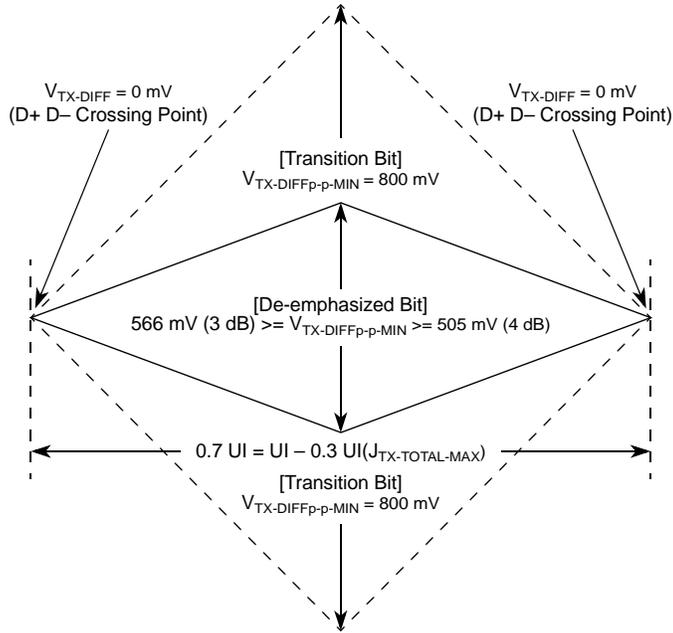
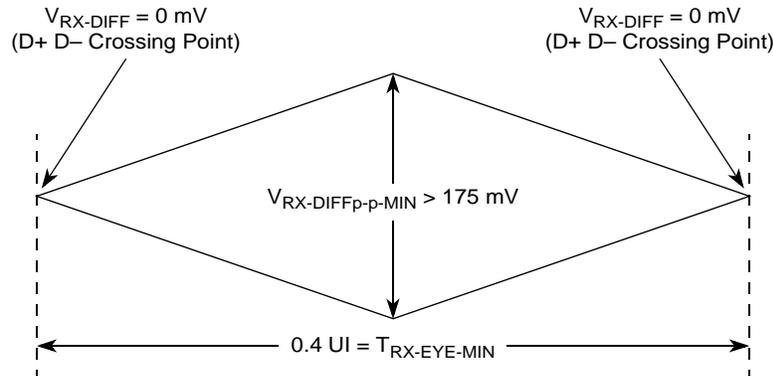
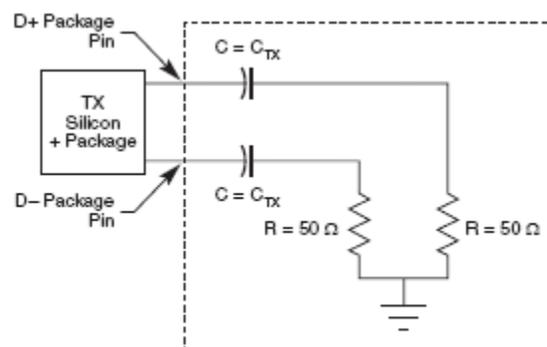

Figure 27. Minimum Transmitter Timing and Voltage Output Compliance Specifications
Figure 28. Minimum Receiver Eye Timing and Voltage Compliance Specification
Figure 29. Compliance Test/Measurement Load
2. Specified at the measurement point into a timing and voltage compliance test load as shown in Figure 29 and measured over any 250 consecutive TX UIs. (Also refer to the transmitter compliance eye diagram shown in Figure 27.)
4. The transmitter input impedance shall result in a differential return loss greater than or equal to 12 dB and a common mode return loss greater than or equal to 6 dB over a frequency range of 50 MHz to 1.25 GHz. This input impedance requirement applies to all valid input levels. The reference impedance for return loss measurements is 50 Ω to ground for both the D+ and D– line (that is, as measured by a vector network analyzer with 50- Ω probes, see Figure 29). Note that the series capacitors, C_{TX} , is optional for the return loss measurement.
5. Measured between 20%–80% at transmitter package pins into a test load as shown in Figure 29 for both V_{TX-D+} and V_{TX-D-} .
The TX eye diagram in Figure 27 is specified using the passive compliance/test measurement load (Figure 29) in place of any real PCI Express interconnect + RX component. There are two eye diagrams that must be met for the transmitter. Both diagrams must be aligned in time using the jitter median to locate the center of the eye diagram. The different eye diagrams differ in voltage depending on whether it is a transition bit or a de-emphasized bit. The exact reduced voltage level of the de-emphasized bit is always relative to the transition bit.
2. Specified at the measurement point and measured over any 250 consecutive UIs. The test load in Figure 29 should be used as the RX device when taking measurements (also refer to the receiver compliance eye diagram shown in Figure 28). If the clocks to the RX and TX are not derived from the same reference clock, the TX UI recovered from 3500 consecutive UI must be used as a reference for the eye diagram.
4. The receiver input impedance shall result in a differential return loss greater than or equal to 15 dB with the D+ line biased to 300 mV and the D- line biased to -300 mV and a common mode return loss greater than or equal to 6 dB (no bias required) over a frequency range of 50 MHz to 1.25 GHz. This input impedance requirement applies to all valid input levels. The reference impedance for return loss measurements for is 50 Ω to ground for both the D+ and D- line (that is, as measured by a vector network analyzer with 50- Ω probes, see Figure 29). Note that the series capacitors, C_{TX} , is optional for the return loss measurement.
The RX eye diagram in Figure 28 is specified using the passive compliance/test measurement load (Figure 29) in place of any real PCI Express RX component. In general, the minimum receiver eye diagram measured with the compliance/test measurement load (Figure 29) is larger than the minimum receiver eye diagram measured over a range of systems at the input receiver of any real PCI Express component. The degraded eye diagram at the input Receiver is due to traces internal to the package as well as silicon parasitic characteristics which cause the real PCI Express component to vary in impedance from the compliance/test measurement load. The input receiver eye diagram is implementation specific and is not specified. RX component designer should provide additional margin to adequately compensate for the degraded minimum Receiver eye diagram (shown in Figure 28) expected at the input receiver based on an adequate combination of system simulations and the return loss measured looking into the RX package and silicon. The RX eye diagram must be aligned in time using the jitter median to locate the center of the eye diagram.
The reference impedance for return loss measurements is $50\ \Omega$ to ground for both the D+ and D- line (that is, as measured by a Vector Network Analyzer with $50\ \Omega$ probes—see Figure 29). Note that the series capacitors, $C_{PEACCTX}$, are optional for the return loss measurement.
The AC timing and voltage parameters must be verified at the measurement point, as specified within 0.2 inches of the package pins, into a test/measurement load shown in Figure 29.